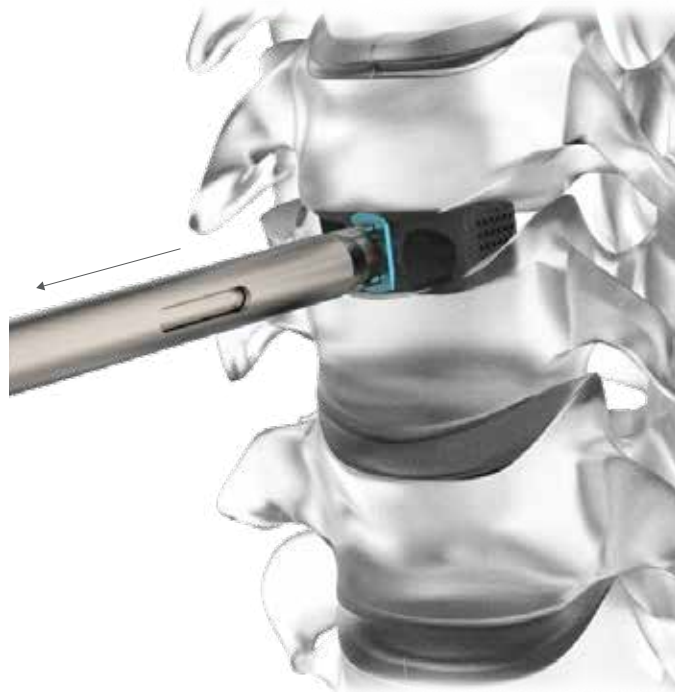

Figure 13
- In the event removal of the Nexxt Matrix[®] Stand Alone Cervical - TL System is desired, utilize the Lock Tool and rotate the Turn Lock counterclockwise until bottomed out such that the Turn Lock is in an open position. Use a Screw Inserter to back out the Screws. Lastly, attach the Fixed Cage Inserter to the Cage and gently remove (Figure 13).